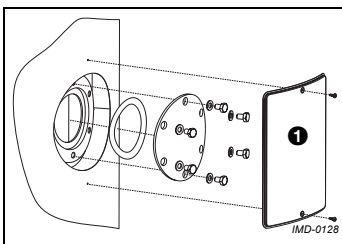

Figure 9.1 Cleaning opening
1. Remove the cover plate **1** on the external shell. See Figure 9.1.